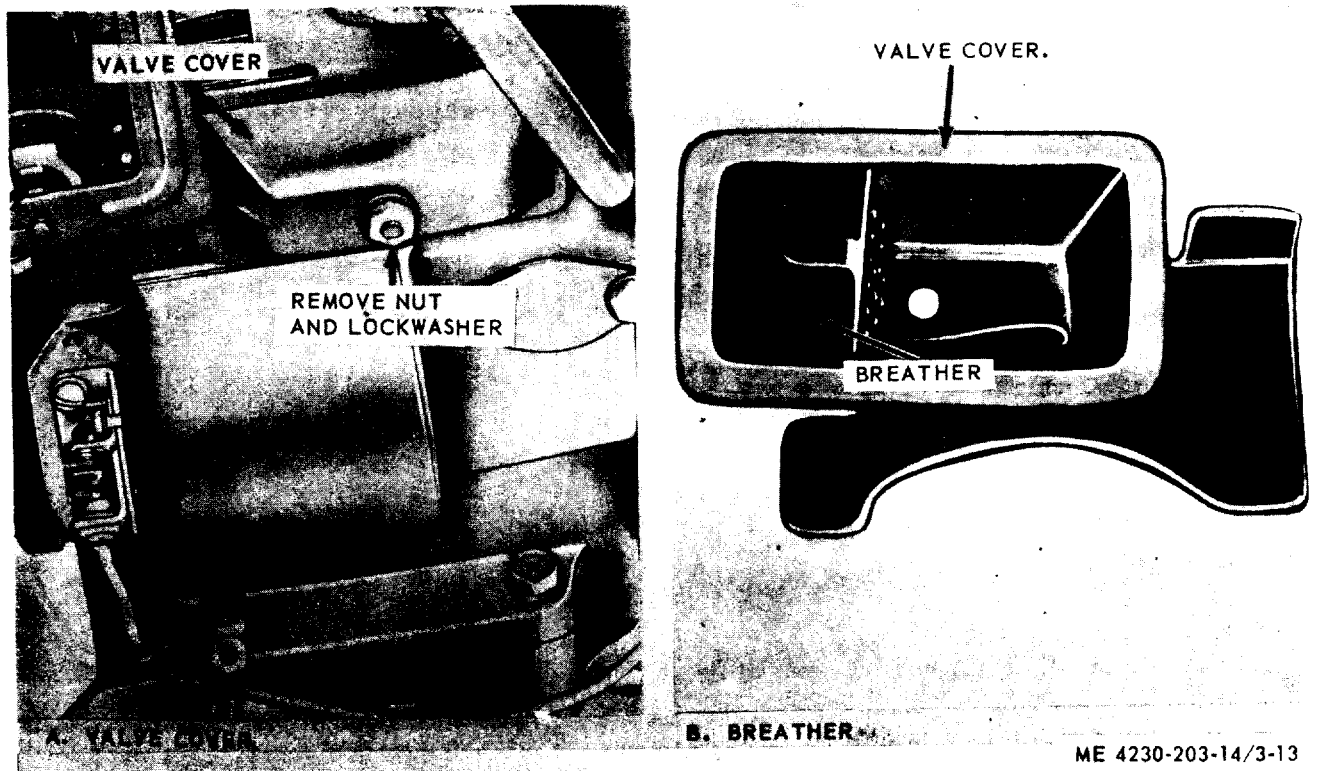

Figure 4-13. Valve cover and breather, removal and installation
u. **Removal.** Refer to figure 4-13 and remove the valve cover and breather.
(1) Clean all parts with solvent and dry thorough-
(2) Inspect for cracks, breaks, and other damage.
(3) Replace a damaged or defective valve cover and breather.
c. **Installation.** Refer to figure 4-13 and install the valve cover and breather.